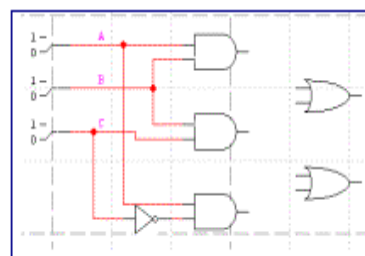

Fig. 11
- Connect the output of this inverter to one of the inputs of the last AND gate and connect the other AND gate input to switch A. Your design should now resemble the schematic in Fig. 11.